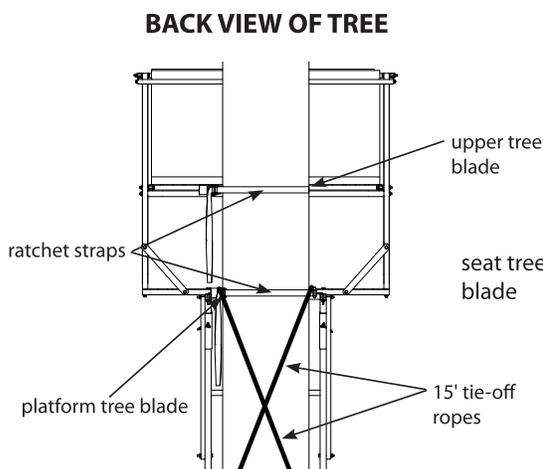

Figure 1a (RE633)
- a. Position (2) people at the platform end of the ladder, lift the platform end and continue uprighting by walking toward bottom end of ladder and moving hands along ladder legs. **Stand ladder up against chosen straight tree on dry, level ground.** Use caution when ladder comes over center against the tree.
- e. Wrap the previously attached 15' tie-off ropes hanging down from platform, around the back side of tree in opposite directions of each other. Pull the ropes snug and tie them to the ladder at the stabilizer bar height location. This ground level ladder-to-tree attachment will prevent the ladder from pulling away from the tree while ascending to top for final ratchet strap attachment. The same holds true when ladder removal is necessary. **SEE FIGURE 1a, 1b or 1c.**